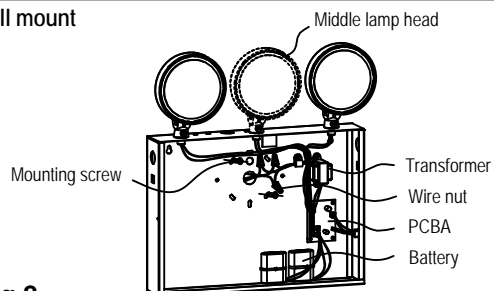

Fig 2
2. Assemble center lamp head provided if fixture have this option, make proper center lamp head connection (see Fig 2).
4. Feed AC supply leads through the center hole on the housing, Mount fixture to the J-Box using the (2) 1" long 8-32 screws (see Fig 2).